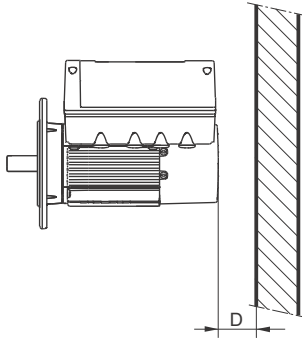

Fig. 1 Minimum distance (D) from the motor to a wall or other fixed objects
*In order to ensure sufficient cooling of the motor, the distance (D) between the end of the fan cover and a wall or other fixed objects must always be at least 50 mm, irrespective of motor size. See fig. 1.*